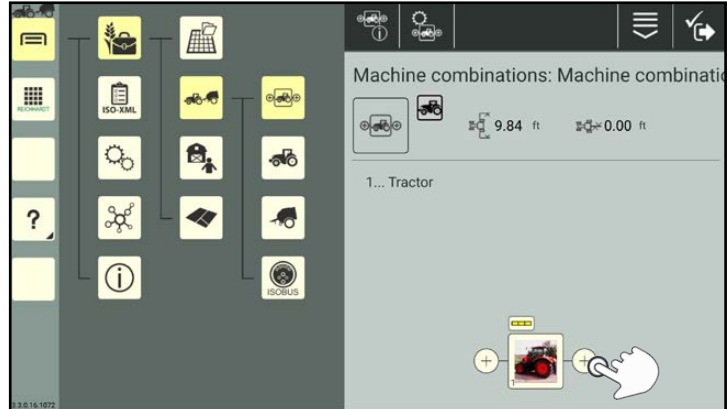

Fig. 310: Adding a machine combination element
-  Tap the plus key at the bottom of the machine combination configuration (see Fig. 310).